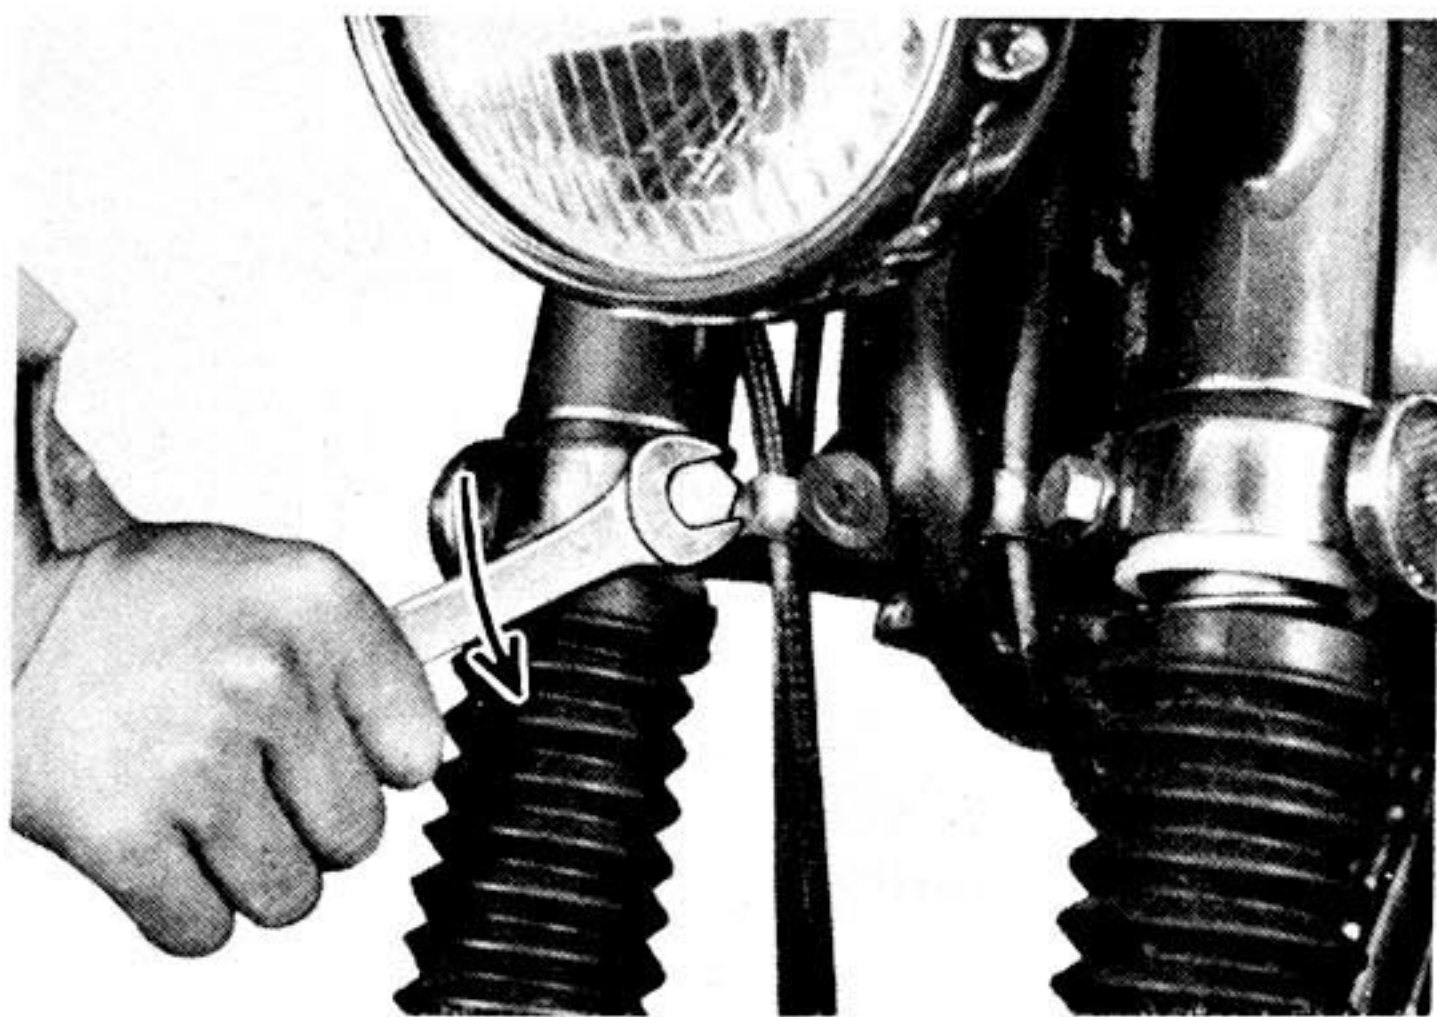

Fig. 5-7-1
- 2) Loosen the inner tube clamping bolt on the underbracket. (Fig. 5-7-1)